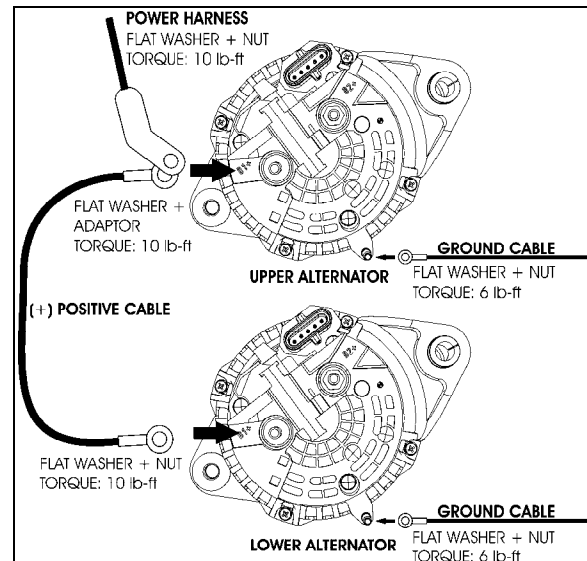

FIGURE 43: TWIN BOSCH HD10 CONNECTIONS
7. Connect ground harness and (+) positive cable on the lower alternator as shown (FIGURE 43).